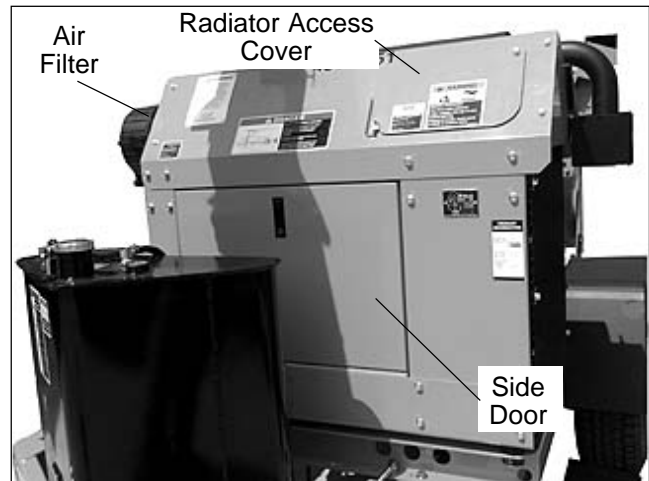

Figure 2 — Removing Access Doors
2. Remove the side doors and the radiator access cover from the engine (refer to Figure 2).